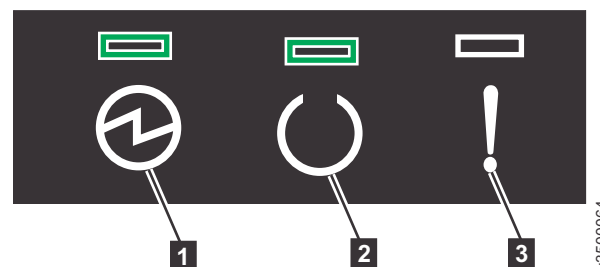

Figure 24. Expansion canister LEDs
2. From the rear of the expansion enclosure, check the LEDs on each expansion canister (see Figure 24).